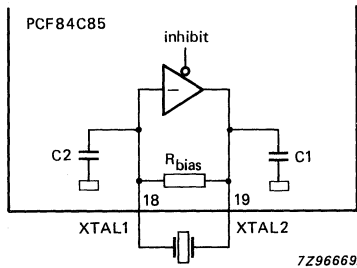

Fig. 15 Oscillator with integrated elements.
**FUNCTIONAL DESCRIPTION** (continued)**Oscillator** (see Fig. 15)